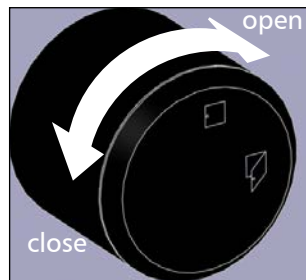

Fig. 14 Opening and closing the door
- ▶ To open the door, turn handle to the right (Fig. 14).